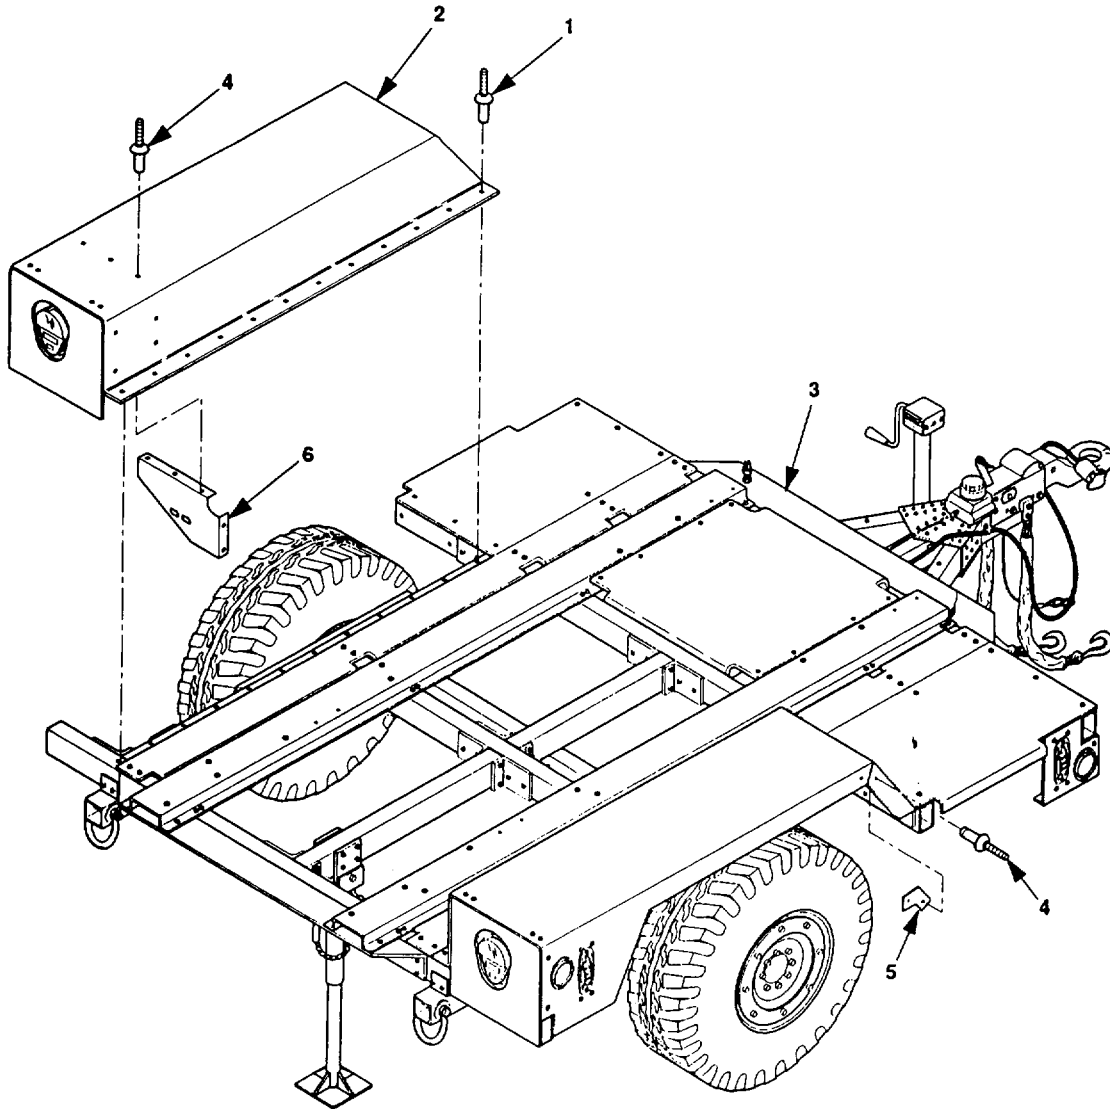

Figure 5-20.2. PU-797A and AN/MJQ-35A Fender Replacement.
- (1) Data plate (paragraph 4-22).
- (2) Fire extinguisher and bracket (paragraph 4-20).
(3) Side marker light and reflector (TM 9-2330-392-14&P).
b. Remove rivets (1, figure 5-20.2) and fender (2) from trailer chassis (3).
- a. Place fender (2, figure 5-20.2) on trailer chassis (3) and secure with rivets (1).
- (3) Side marker light and reflector (TM 9-2330-392-14&P).